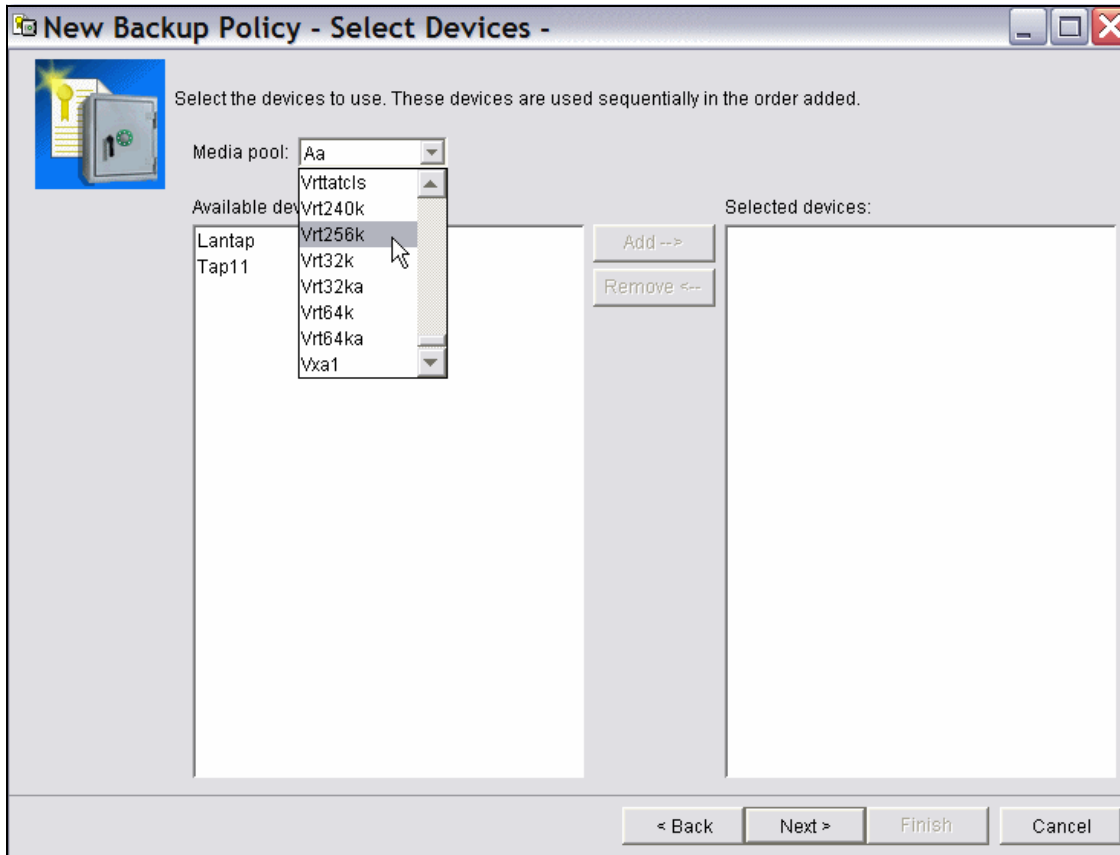

Figure 5-25 BRMS backup policy, select devices
12. In the Select Devices window shown in Figure 5-25 on page 213, against Media pool, select the pool used in this scenario (**Vrt256k**), and click **Next**.